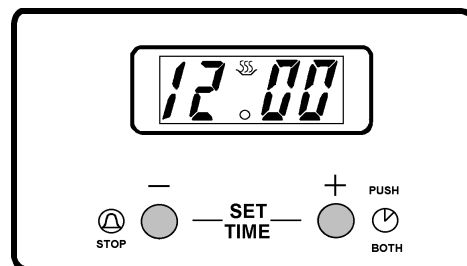

Fig. 3
Within five seconds press and hold either button (1) to decrease or button (2) to increase the time until the correct time of day on the 24 hour clock is reached, e.g. 14:30. The cooking symbol (☁) will go out. See Fig. 3.